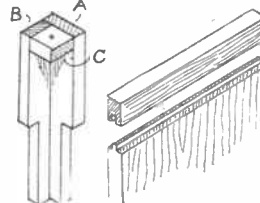

Fig. 2—Corners
There is a point to be noted here though before the pieces are glued together. One piece (A), Fig. 2, will be as cut, the second piece (B) will have a strip sawn off equal to the thickness of the wood, so that both sides of the completed leg will measure the same. For instance, if the wood is  $\frac{3}{4}$ in. thick, (A) will be 3ins. wide and (B)  $2\frac{1}{4}$ ins.